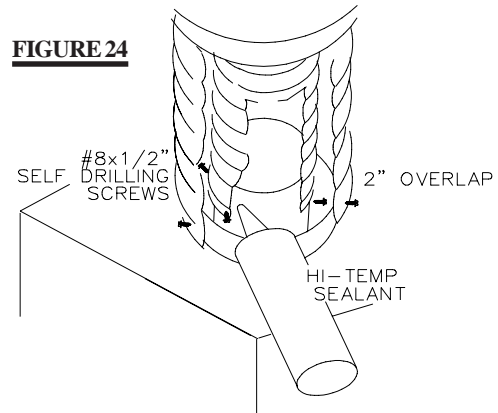

FIGURE 24
1. Install the 5 inch diameter aluminium flexible liner to the fireplace. Secure with 3 screws and flat washers. Seal the joint and screw holes using the high temperature sealant provided. **FIGURE 24.**